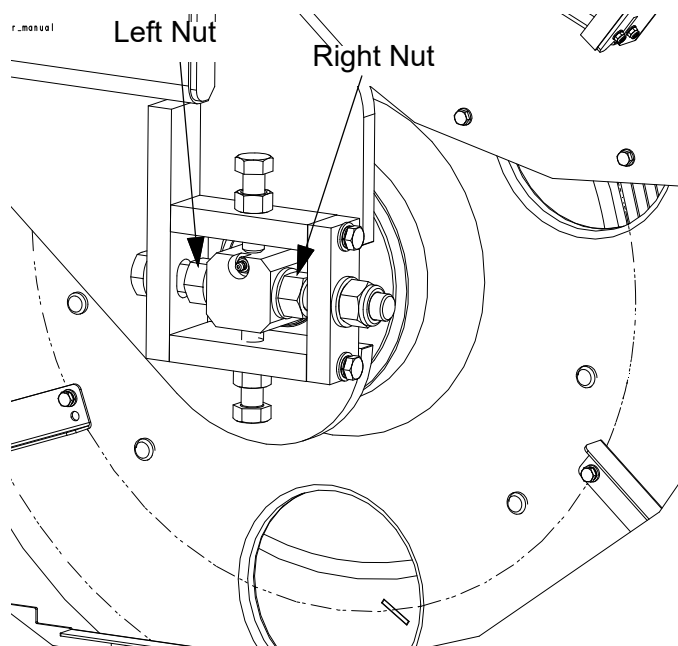

FIG. 3-5.
See Figure 3-5.
5. Use the cant adjustment nuts, shown in **Figure 3-5**, to adjust when the blade travels on the blade wheels.